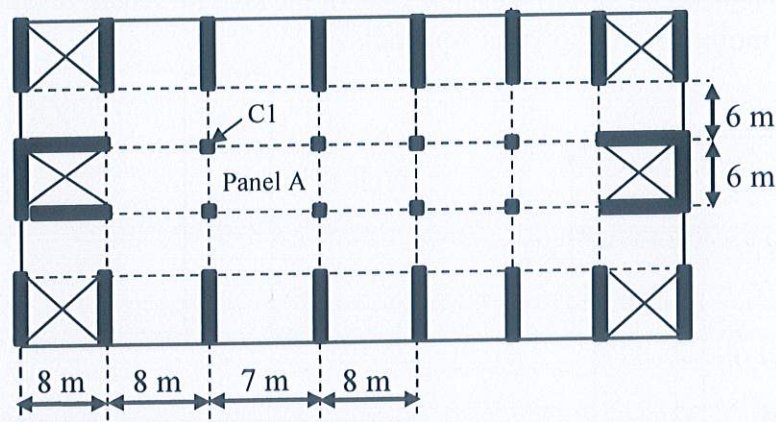

Figure 3. Structural model (floor plan) of high-rise building
3. Analyze the Beam in **Fig.3** by Force Method and draw the final bending moment diagram (Consider the vertical reaction at C as the redundant ...X1). [12]
The floor slab layout plan of a 10 storeyed office (live load 2.4 kN/m²) building is shown in **Figure 3**. The floor will be constructed with **flat plate slab system** and it carries 3 kN/m² dead load due to random wall and floor finishes. Design the **long span column strip** of the slab **panel A** as shown in **Figure 3**. Assume required data for Design. Thickness of the slab could be considered as minimum in design as per the requirements of code of practice. [20 Marks]
The ground floor column of the structure of **Question 3** as shown in **Figure 3** (Column C1) has to be designed. The column is subjected to equivalent uni-axial bending moment of 450 kN.m due to lateral load. Design the column as tie column considering the possible minimum dimension of the column in design. Assume required data for design. [20 Marks]
Pile foundation will be used for the structure of **Question 3**. The capacity and size of bore pile could be considered as per engineering judgment. Propose a solution for minimum thickness of pile cap for the column of C1 (Question 3) as shown in **Figure 3** in accordance to all possible considerations of code of practice. Design the pile cap with the minimum thickness. Assume required data for design. [20 Marks]